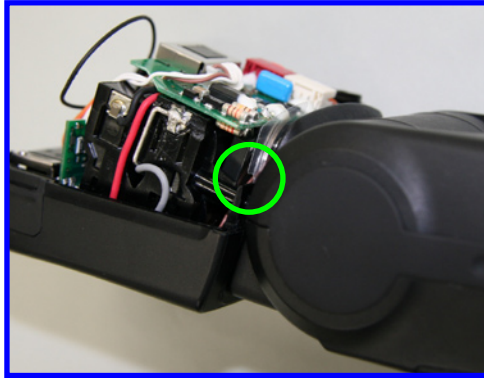

Fig. 014 Alignment Position of the Battery Case Ass'y and the Dust-proof Sheet
- Align the Battery Case pins with the notches on the Dust-proof Sheet. (Fig. 014)